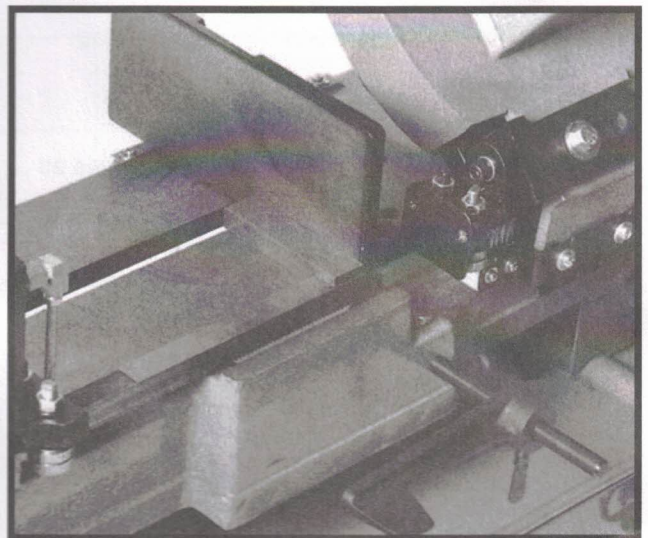

Fig. 7
2. Place a machinist's square as pictured in figure 7. Square should lie along entire length of vise and blade without a gap.